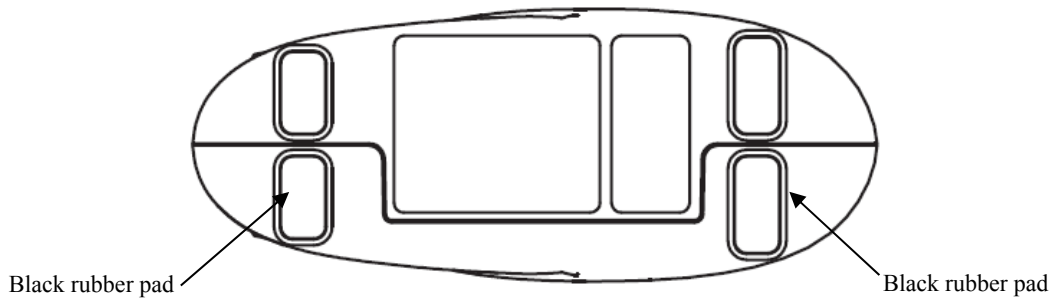
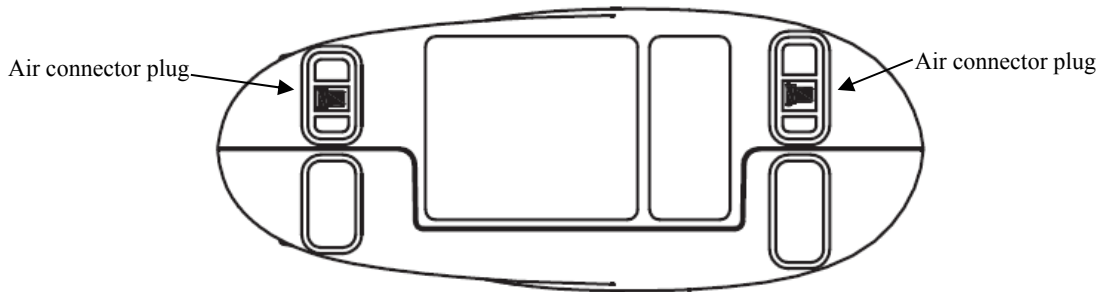

Figure 3.8A
Figure 3.8B
- A). Remove the 4 black rubber pads from the battery compartment on the back of the Spot-Check Monitor, as shown in figure 3.8A. The air connector plugs are under the black rubber pads, as shown in figure 3.8B. (Note: there are two plugs and two screws under the black rubber pads).